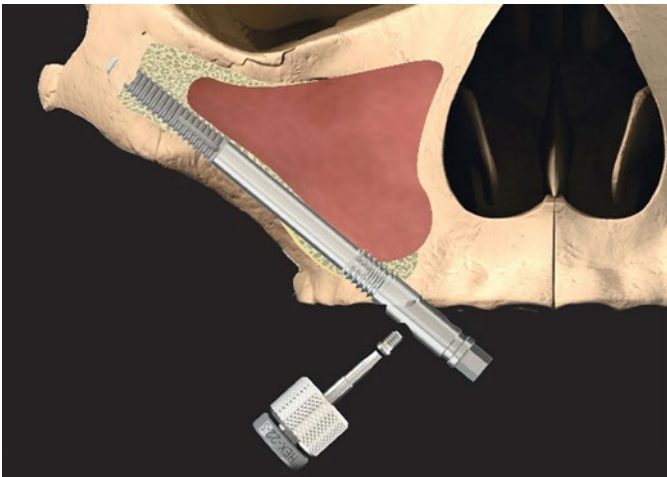

Figure 11
9. The fixture mount screw is then loosened with the dedicated screwdriver and the fixture mount is removed (Figure 11).